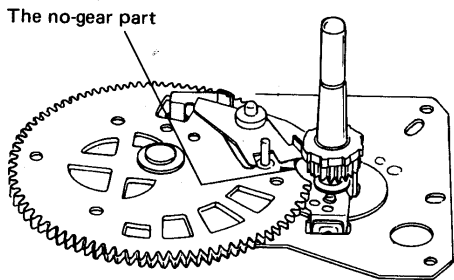

Fig. 7
- (1) Turn the turntable shaft to rotate the main gear until it comes to the no-gear part. (Fig. 7)